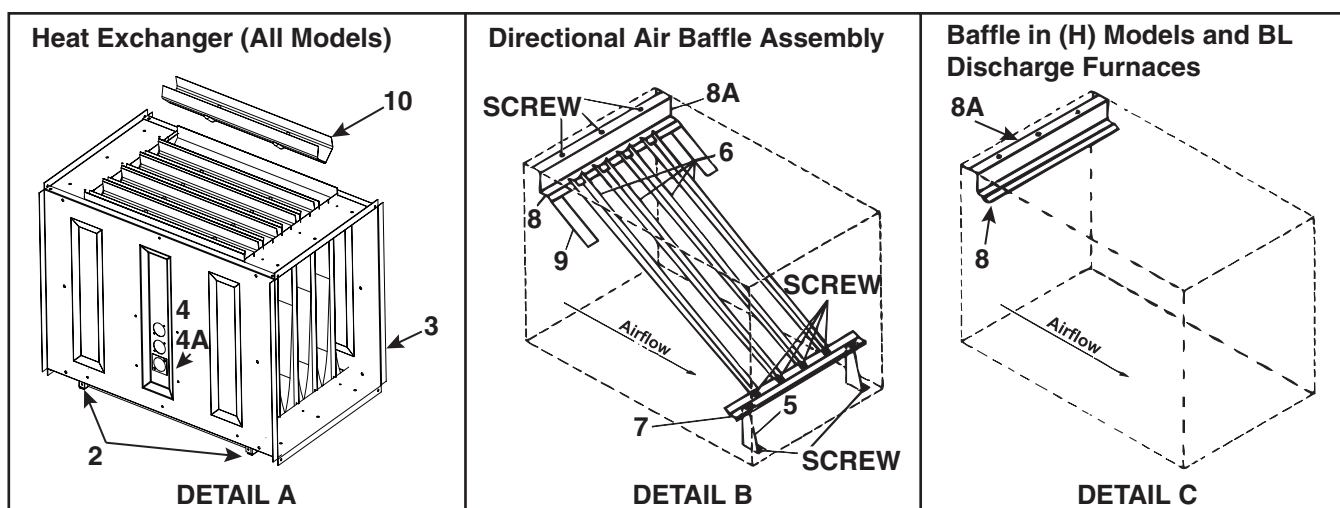

Figure 14. Heat Exchanger Components (Refer to Table 21)
- Units have one heat exchanger (see Figure 14, DETAIL A) per furnace section.
- When replacing a heat exchanger, check to see if the baffle assembly can be salvaged. If the baffle assembly cannot be salvaged, it will be necessary to order the parts (items 5–9) in the quantities listed and assemble and install replacement baffles.
- Models CRG, CRGB, CRP, CRPB, RG, RGB, RP, and RPB are equipped with a directional air baffle assembly (see Figure 14, DETAIL B). Model RPB units manufactured *after* DEC 2011 are built with or without these heat exchanger baffles depending on the CFM of the original order.
- Models HRG, HCRG, HRP, HCRP, HRGB, HCRGB, HRPB, and HCRPB and the discharge furnace only on models HRPD, RGBL, CRGBL, RPBL, and CRPBL (see Figure 14, DETAIL C) are equipped with only a rear top baffle (item 8) and a rear top baffle support (item 8A). If these parts cannot be salvaged, order and install replacements. These parts are not installed in the replacement heat exchanger at the factory. They must be ordered separately and installed in the field.